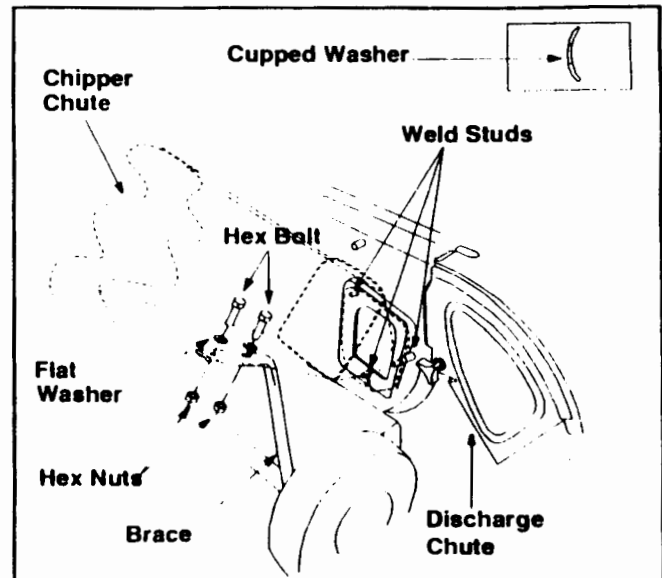

Figure 5
- Remove the three cupped washers and hex nuts from the weld studs beside the opening on the left side of the housing. See Figure 5.
- Align the holes towards the front opening of the chute with the holes on the brace. See Figure 5.